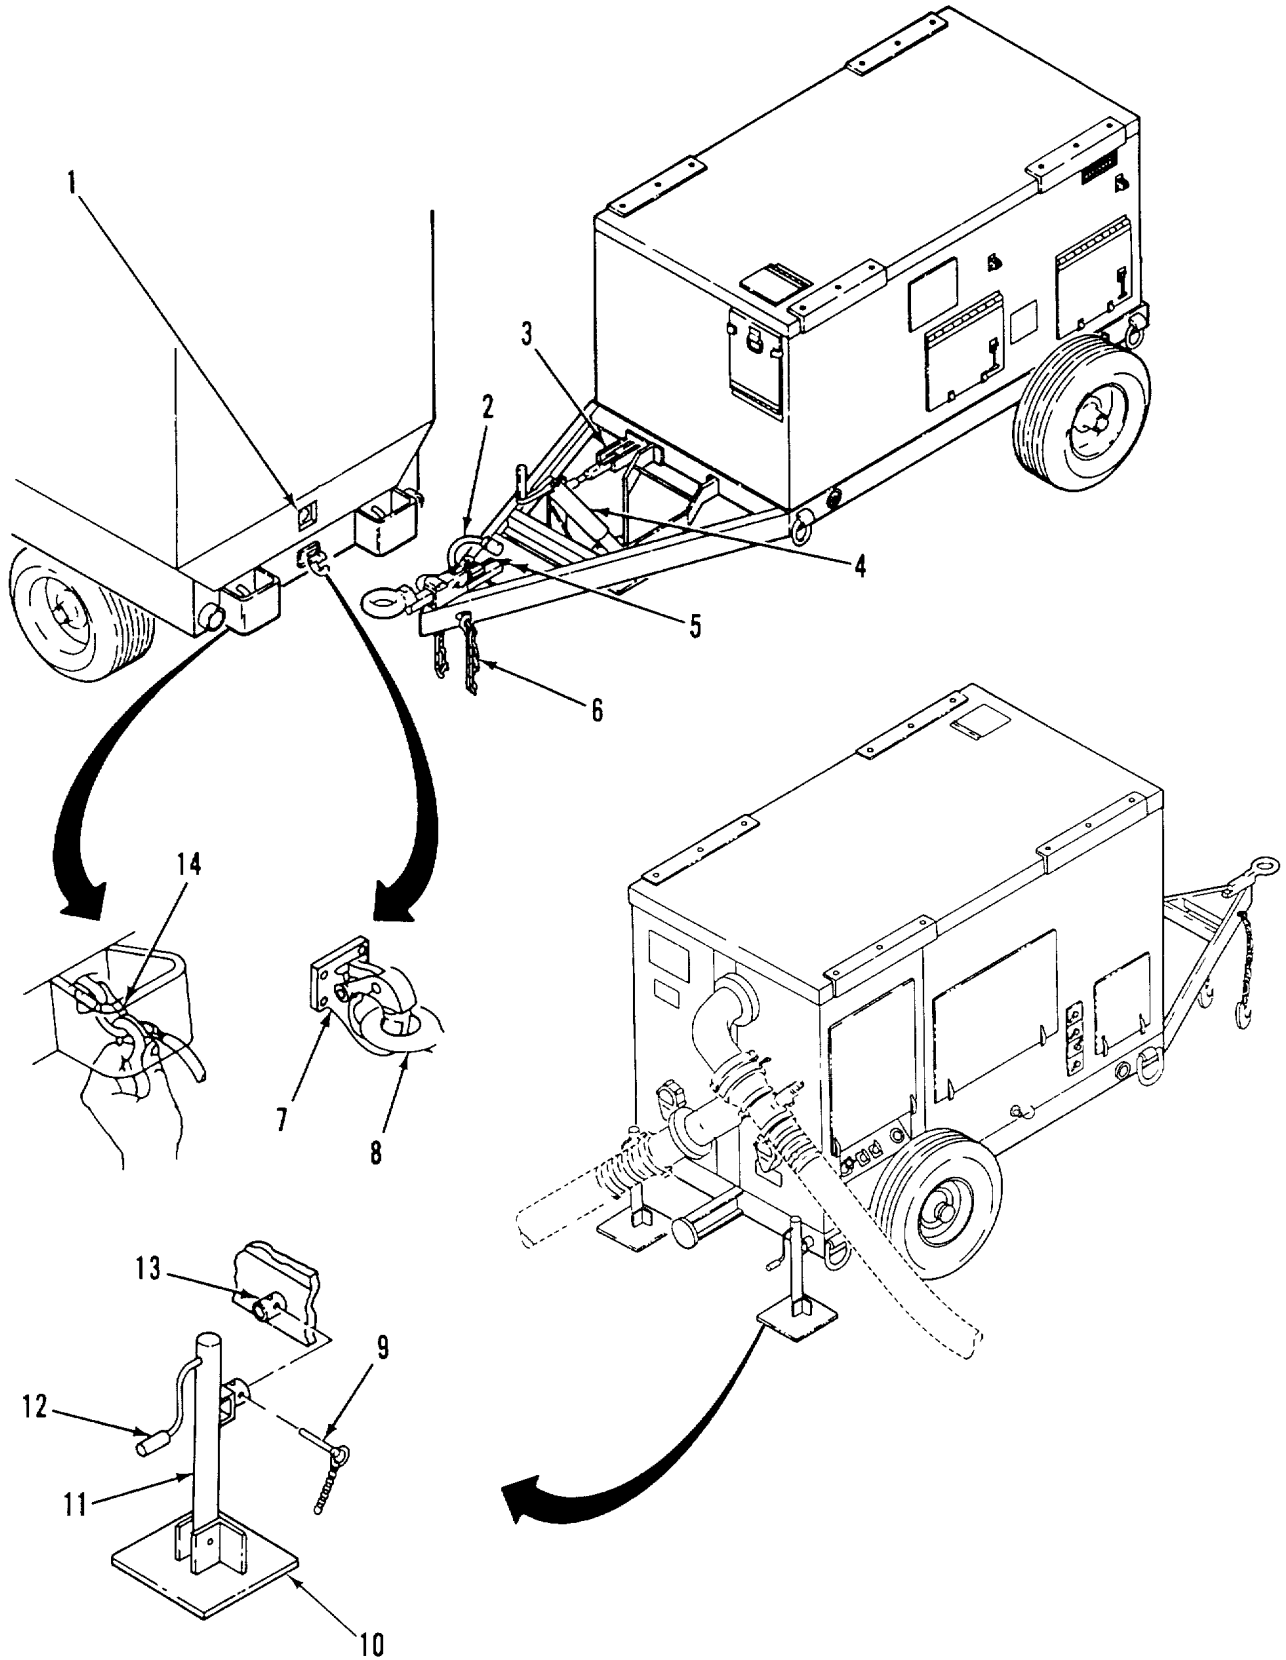

Figure 2-1. Initial Assembly Setup
- a. Pumping Assembly Setup. Perform the following (Figure 2-1):